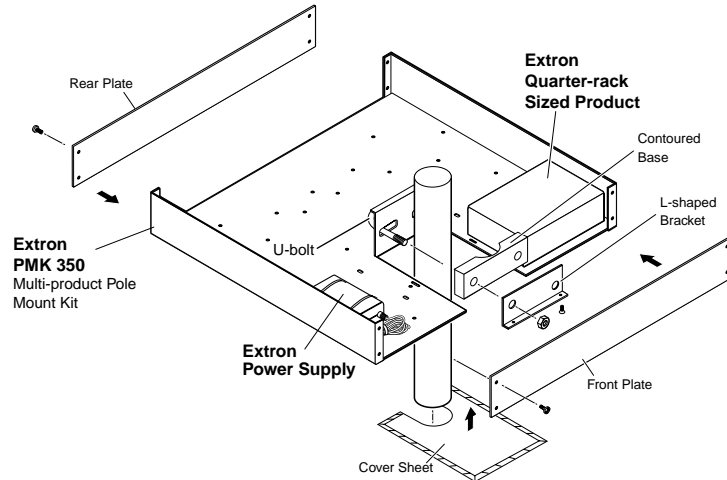

Figure 8. PMK 350 Projector Mounting a Receiver
1. Remove the front and rear plates from the PMK 350 (figure 8), using an Extron Tweezer or a #2 Phillips screwdriver. Retain the screws to reattach the plates.
5. Place the PMK 350 around the projector ceiling mounting pole (figure 8).